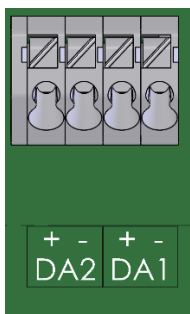

Fig. 14
1. Connect the downstream device to the required digital outputs (terminals DA1 and DA2) on the EK205-M (see Fig. 14).